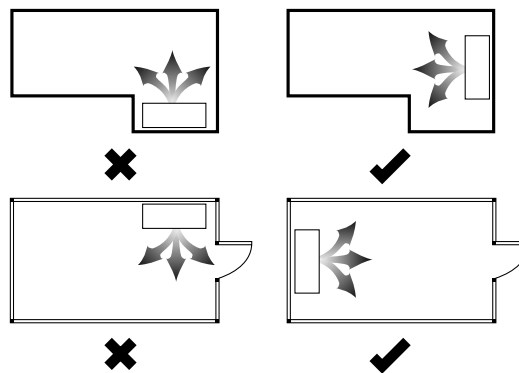

Figure 1
1. Select an appropriate position that allows every corner of the room to be uniformly air conditioned and where it is easy to route the refrigerant tubing (Figure 1).